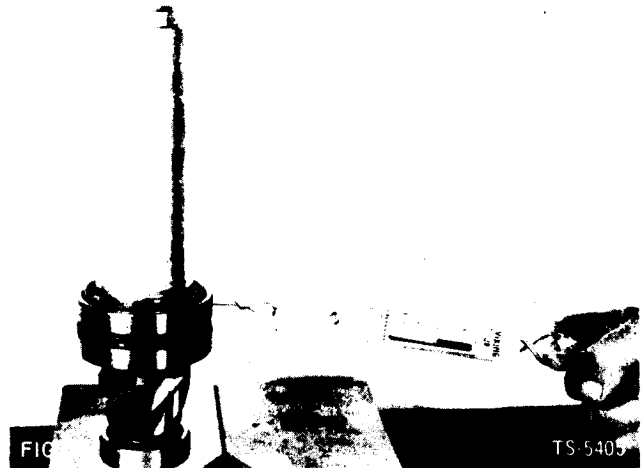

FIG. 69
4. While assembly is in press, apply 500 lbs. pressure to check bearing preload torque. Wrap soft wire or cord around bearing cap and pull in horizontal line with spring scale (Fig. 69). While pulling in straight line (90° from centerline of shaft), read spring scale to measure rotating torque. Multiply reading on spring scale by one-half diameter of bearing cups to obtain preload torque. Correct preload torque is 13 to 23 in. lbs. If bearing preload is not within these limits, remove shims to increase preload or add shims to decrease preload.